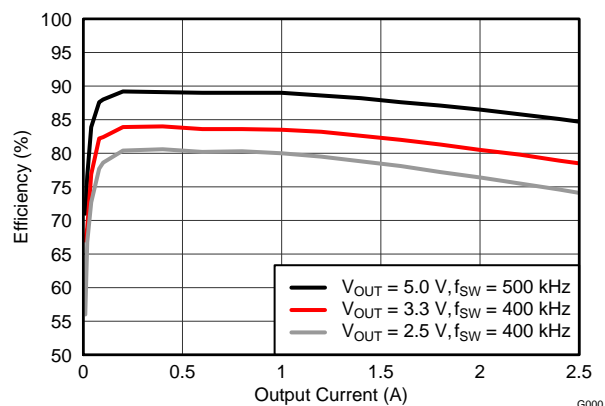
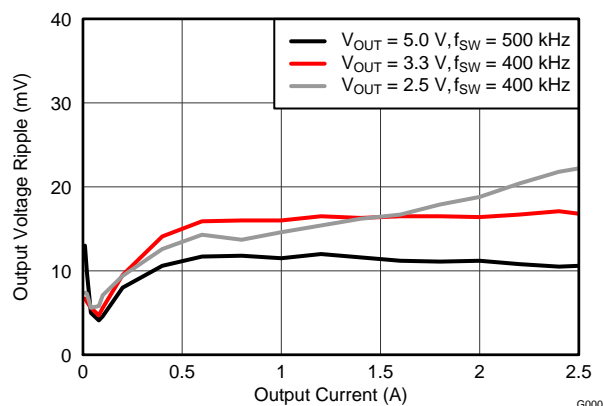
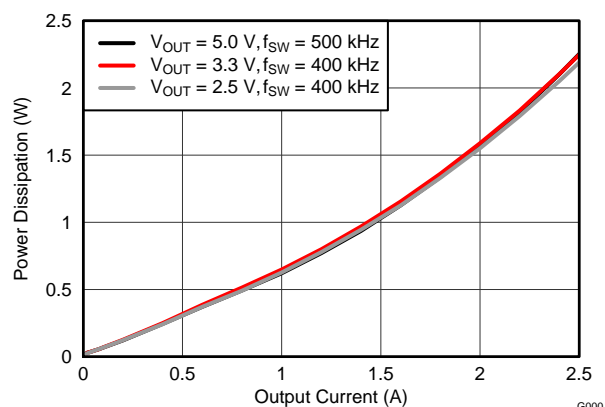

Figure 2. Efficiency vs. Output Current
Figure 3. Voltage Ripple vs. Output Current
Figure 4. Power Dissipation vs. Output Current
- (1) The electrical characteristic data has been developed from actual products tested at 25°C. This data is considered typical for the converter. Applies to Figure 2, Figure 3, and Figure 4.